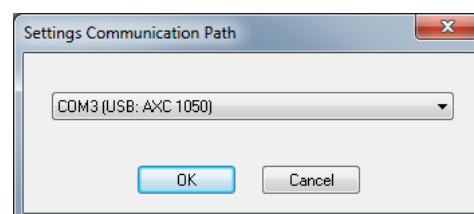

Figure 5-10 “Settings Communication Path” dialog box
- In the “Settings Communication Path” dialog box, select the USB interface and confirm with “OK” (see Figure 5-10).